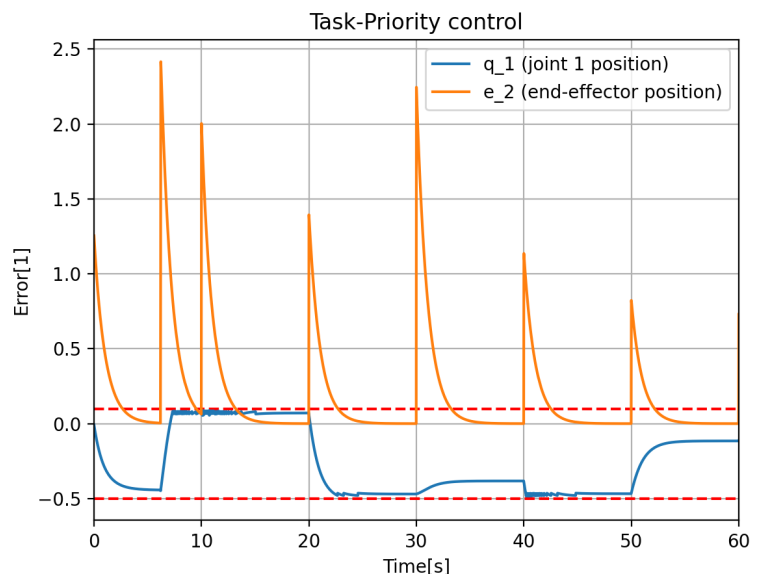

Fig 2. Evolution of the TP control error and first manipulator joint position, over time.
- 4) Plot presenting the evolution of task error and joint position over time (see Fig. 2).